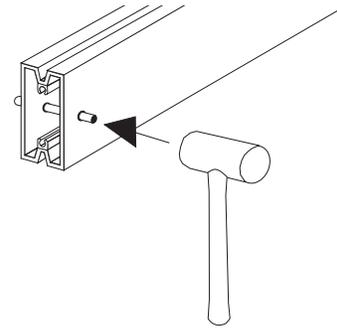

Fig. 1
3. Using a mallet, *gently* tap each pin into place (Fig. 1). The Retainer Pin should protrude equally from each side of the message bar.